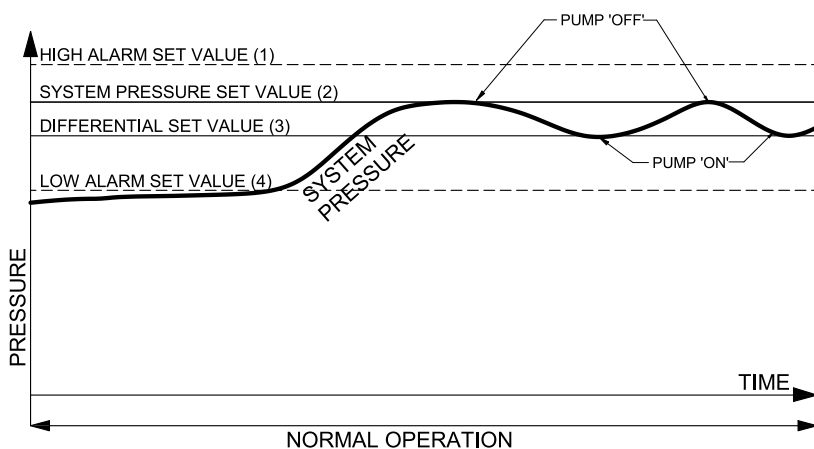

Fig. 18
<p>P1 System pressure (2) see Fig. 18</p>	<p>Sets the required system pressure. Set in 0.1 bar increments up to the maximum set value for the unit. For Matrix Mini 130D & 230D the value is 3.0 bar max.</p>
<p>P2 Differential pressure (3) see Fig. 18</p>	<p>Sets the pressure the unit will turn on at as the system pressure falls. Relative to the set system pressure. Set in 0.05 bar increments below the System pressure (2), cannot be set above 0.1 bar below the System pressure (2).</p>
<p>P3 Hi Alarm (1) see Fig. 18</p>	<p>Sets high system pressure alarm. Set in 0.05 bar increments above the System pressure (2). Cannot be set below System pressure + 0.5 bar. Alarm auto resets when system pressure is reduced below alarm level.</p>
P4 Lo Alarm (4) see Fig. 18	Sets low system pressure alarm. Set in 0.05 bar increments below the System pressure (2) - Differential pressure (3) - 0.05 bar. Alarm auto resets when system pressure is increased above alarm level
During normal operation the unit will monitor the system pressure and re-pressurise the system if the system pressure drops below the system pressure - differential pressure. See Fig. 18.